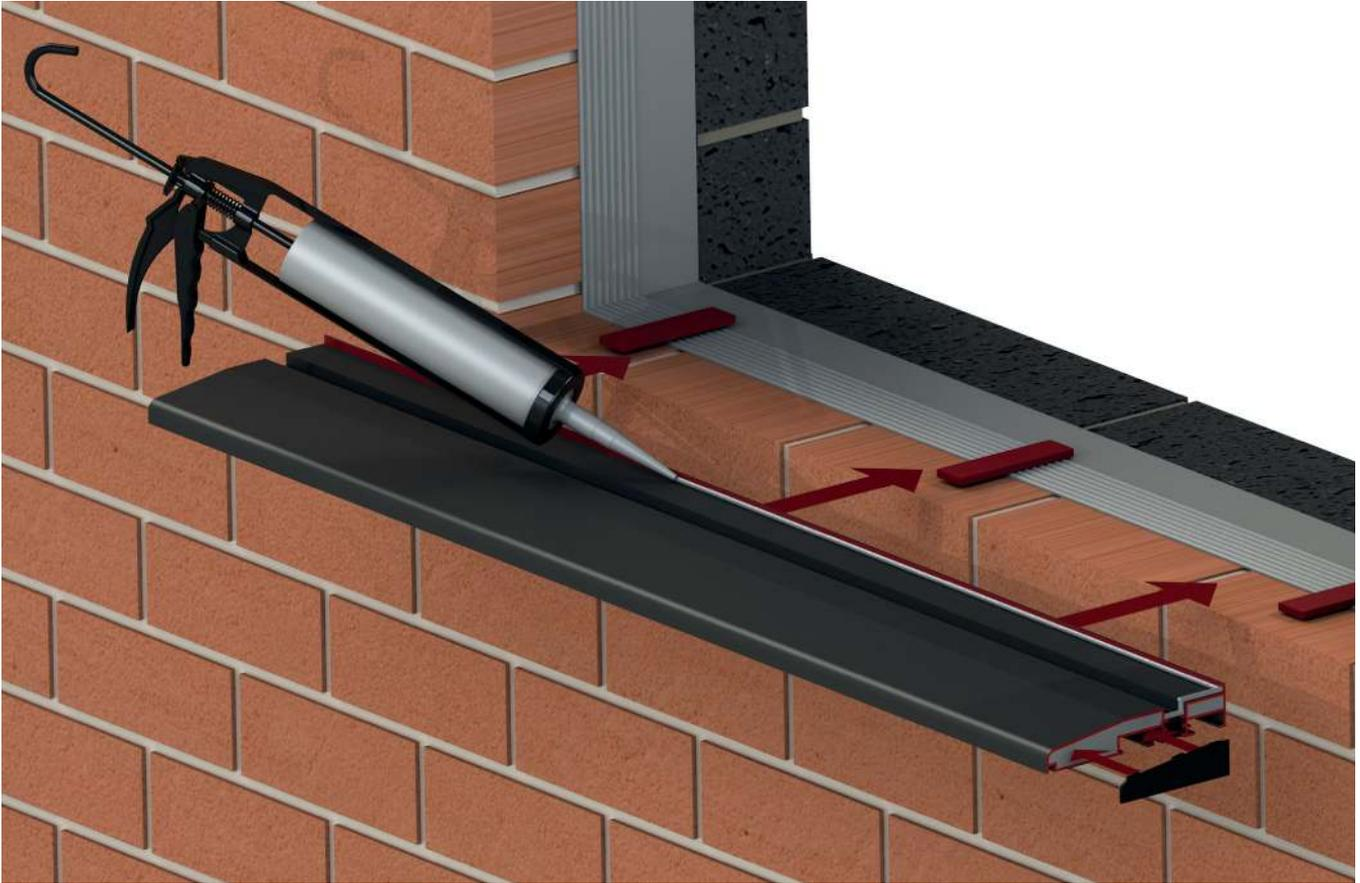

FIG 2
- ▶ 1.2. Using an appropriate silicone sealant, fill the ends of the cill section and install the end caps (Fig.2)
- ▶ 1.3. Place the cill on the pre-prepared frame packers and re-check for level - adjust as required (Fig.2)
- ▶ 1.4. Using a silicone sealant, seal the drainage channels adjacent to the brickwork (Fig.2)
- ▶ 1.5. Run a bead of sealant along the up-stand of the cill (Fig.2)